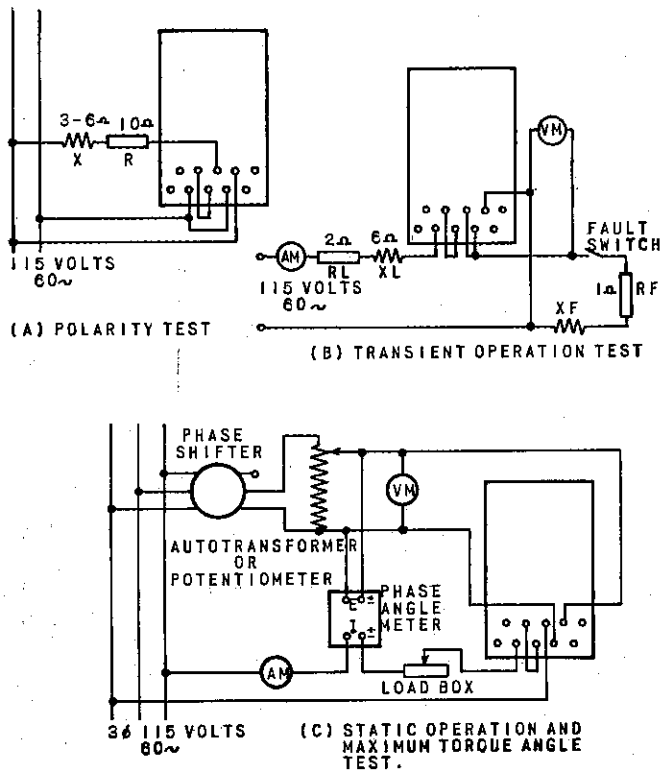

Fig. 11 Test Connections for the Type CEY12A Relay
Tests of the operating characteristics of the relay can be made by means of the connections shown in Fig. 11 (C). In using this circuit, the relay ohmic pickup at any phase angle can be determined from the quotient of the voltage and pickup current at this angle. In using the circuit of Fig. 12 the ohmic characteristic is determined directly from the fault impedance, $R_F + jX_F$. In both cases the ohms of the circuit will be phase-to-phase and consequently twice the amount of impedance calculated as the relay setting under ADJUSTMENTS.
The transient characteristics of the relay are dependent upon the phase angle of the entire test circuit including that of the source of supply. The connections of Fig. 11 (B) are used to check the transient overreach of the relay in the laboratory. The values given are representative. With the fault switch open, the relay contacts should remain open. The value of fault reactance X_F is chosen for the tap setting at which the relay is to be tested. The tap setting is then increased above the